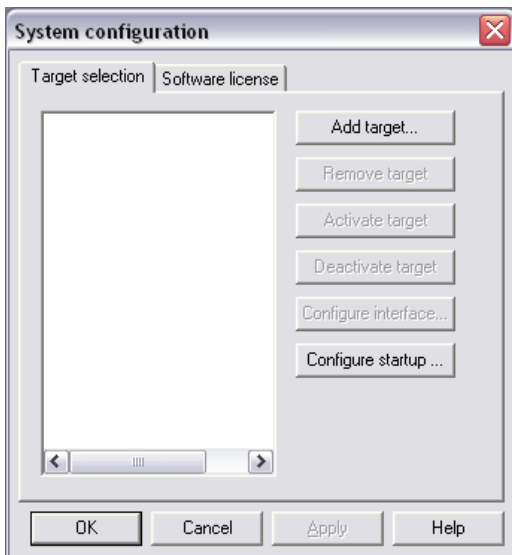

FIGURE 2 System Configuration window.
3. Start Chameleon Debugger. In the System Configuration window, click the Add Target button (Figure 2).